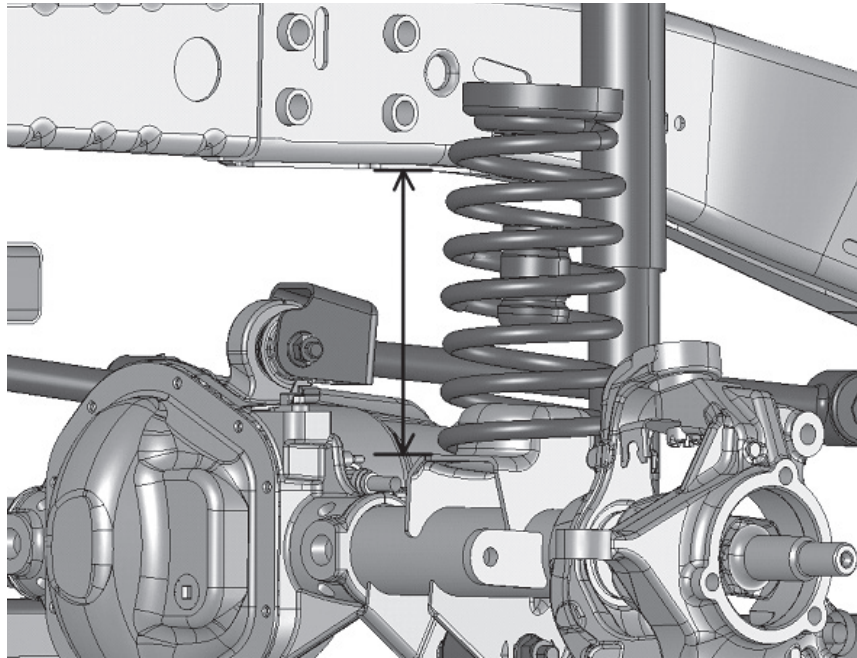

Figure 4
1. You'll first need to get a measurement from your vehicle to determine whether or not you should be using the drop brackets. Measure from the bottom of the frame to the top of the spring seat (Fig. 4).